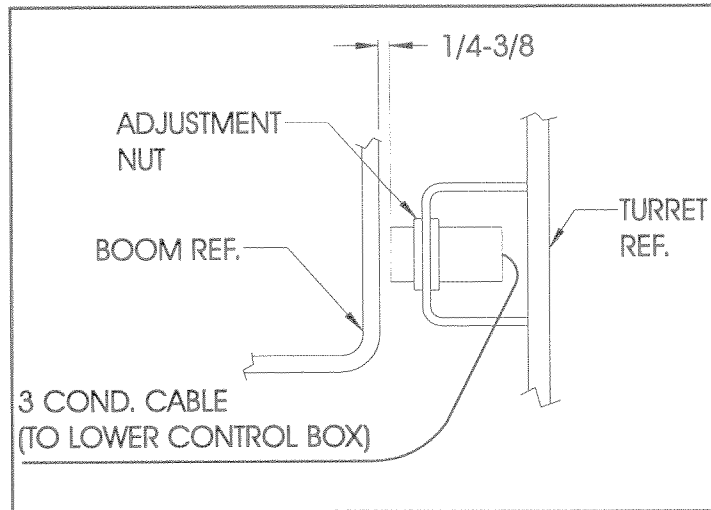

Figure 3-10: Proximity Switch
Superflex Optimizer (Figure 3-10)
3.8 Hydraulic Manifold (Figure 3-10)